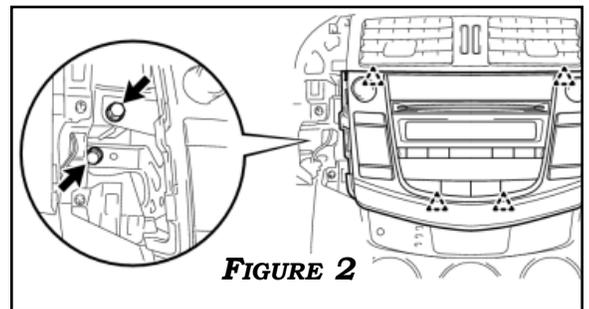

FIGURE 2
2. REMOVE THE 4 BOLTS AND DETACH THE 4 CLAWS. DISCONNECT ALL THE CONNECTORS AND REMOVE THE RADIO RECEIVER WITH BRACKET. **FIGURE 2**